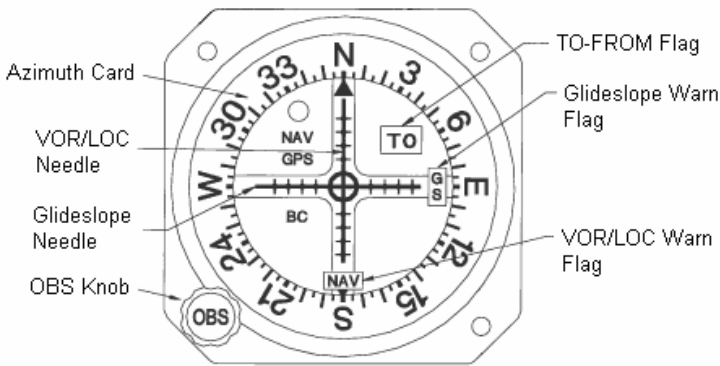

Figure 7-3. MD200-306 Display
6. The MD200-306 display and controls are shown in Figure 7-3. Annunciators on the indicator will light when the mode is active or selected.